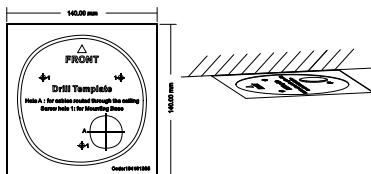
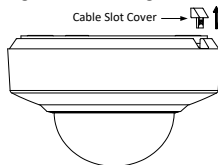

Figure 2-36 Attach the Drill Template
Figure 2-37 For DE2xxx Series PTZ Camera
4. Attach the base plate to the ceiling and secure it with the supplied three self-tapping screws by aligning with three screw holes in the ceiling, and the front arrows on the drill template and base plate should be aligned together as well, as shown in Figure 2-36 and Figure 2-37.